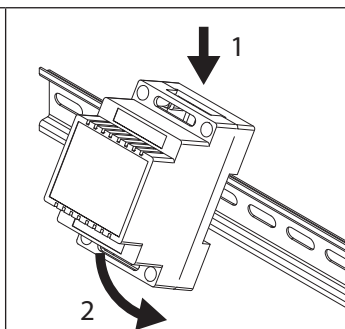
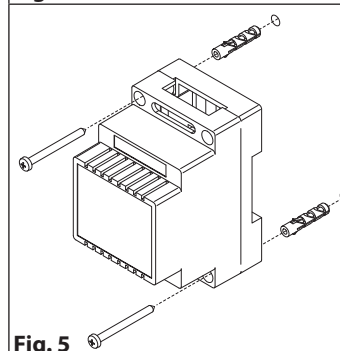

Fig. 4
Fig. 5
4. Following Fig. 4, make the holes (B), insert the wall plugs (C) and fix the base with the screws (D) feeding the wires (E) into the hole (F). If you have used the box 503, fix the base to the wall through the holes (G) using the screws (D).
2. Fix the power supply to a DIN rail (**Fig. 4**) or directly to the wall using two expansion type screws (**Fig. 5**);